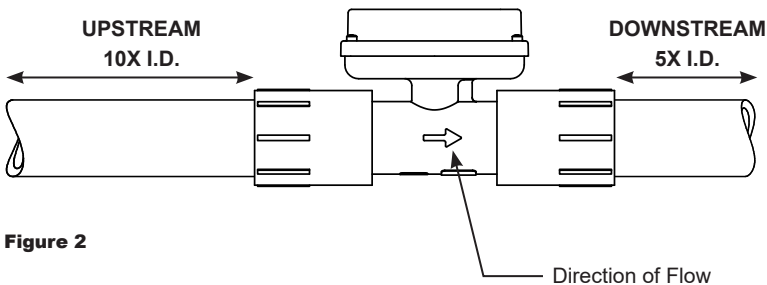

Figure 2
- Plan to install turbine with a minimum straight pipe length as follows (see Figure 2):